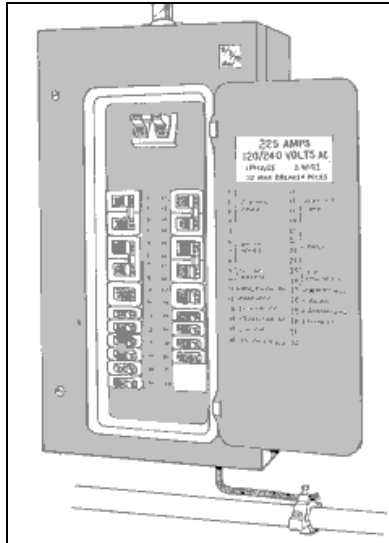
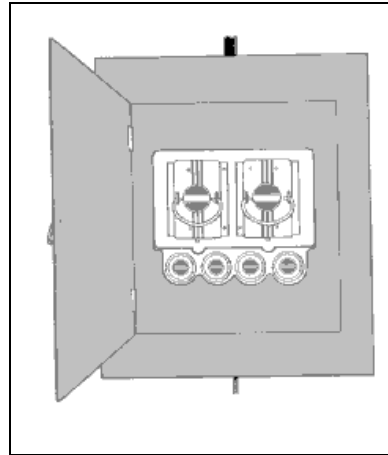

Figure 3.
Figure 4.
- Specify if there were other appliances on the circuit, and if so, specify their amperage requirements. To determine if there are other appliances on the circuit, ask the homeowner. If unknown, ask the homeowner's permission to check the circuit. To check for other appliances on the circuit, observe which appliances turn off when you switch off the current by "tripping" breakers in the circuit breaker panel (Figure 3) or disconnecting fuses in the fuse box (Figure 4).